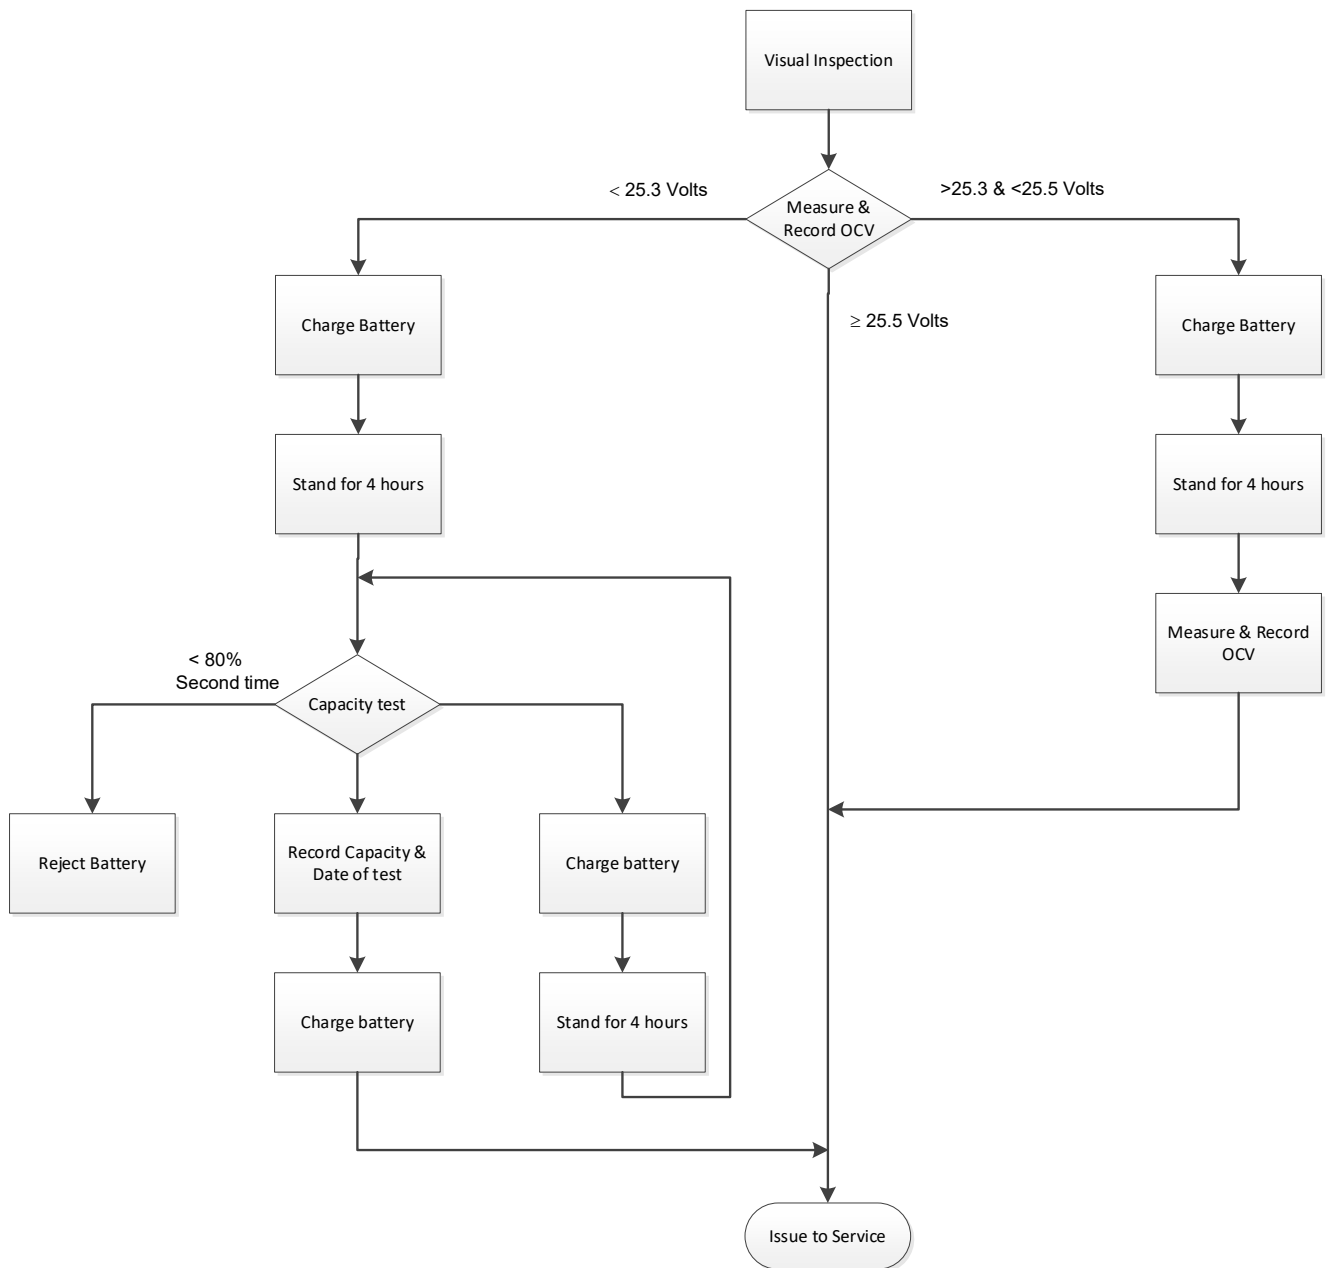

Figure 5 – Battery Commissioning Flowchart
- F. Commissioning Procedure (*Refer to Figure 5 – Battery commissioning flowchart*)